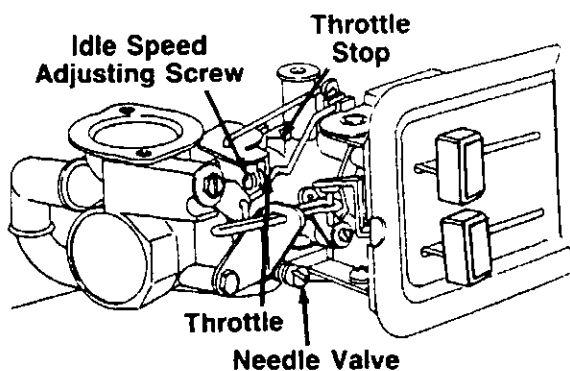

FIGURE 18.
1. Close needle valve (see figure 18) clockwise (↻) finger tight only. Forcing may cause damage. Then open 1½ turns counterclockwise (↻).